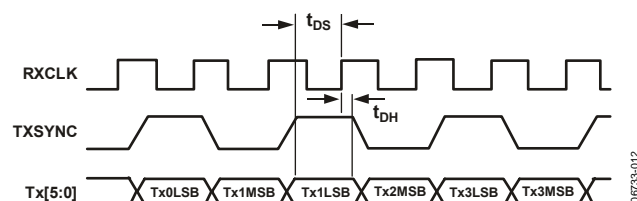

Figure 12. Tx[5:0] Port Full-Duplex Timing Diagram
3. Data from the Tx[5:0] port is read on the rising edge of this sampling clock, as illustrated in the timing diagram shown in Figure 12. Note that  $\overline{\text{TXQUIET}}$  must remain high for the reconstructed Tx data to appear as an analog signal at the output of the TxDAC or IAMP.